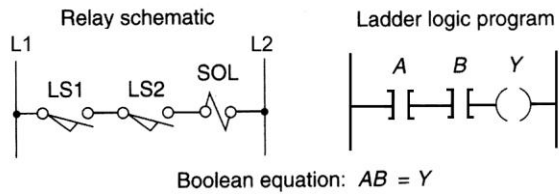

Figure 4-21 Program for assignment 1.
1) Program the relay schematic of Figure 4-21 using your PLC, and simulate its operation.